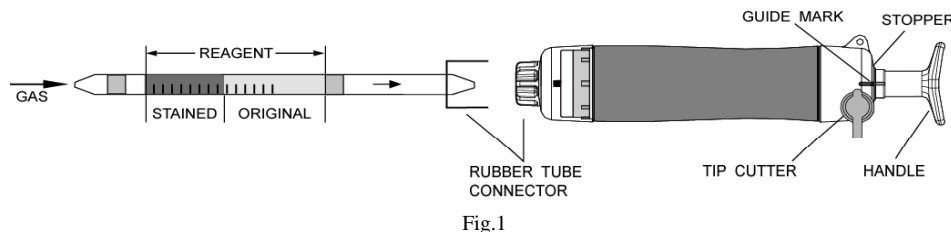

Fig.1
- ① Break both ends of detector tube.
- ② Insert the detector tube into aspirating pump securely as shown in Fig.1. (Arrow mark shall point to the pump.)
- ③ Align the guide marks on the shaft and stopper of the aspirating pump.
- ④ Pull the pump handle at full stroke until it locks and wait for 1 minute or until the completion of sampling is confirmed with the flow indicator of the pump (See descriptions about the flow indicator in the instructions of the pump).
- ⑤ Push the handle without removing the detector tube from the inlet, and air in the pump will be discharged perfectly. Then repeat the step ④ fourth.
- ⑥ On completion of sampling, read the scale at the maximum point of the stained layer.
- ⑦ In case of 1 pump stroke sampling, multiply the reading value by 5.